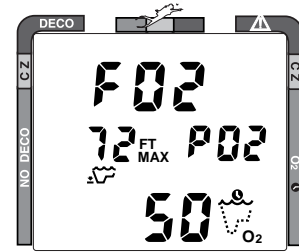

Fig. 28 - FO2 Default
- In this case FO2 must be reset for each repetitive nitrox dive, or the value will automatically 'default' to 50 (Fig. 28) and the dives will be calculated based on 50% O₂ for oxygen calculations and 21% O₂ (79% nitrogen) for nitrogen calculations.